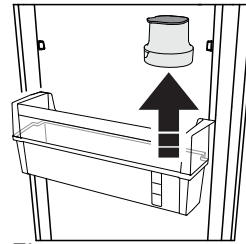

Fig 4
- Remove the filter from the balcony (Fig. 4)